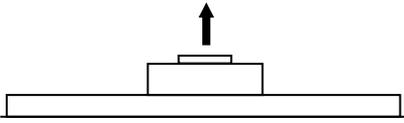

Fig 16
- On models without a motor you can also duct from the top of the extractor Figures 16 – 18 show the being ducted from the top.